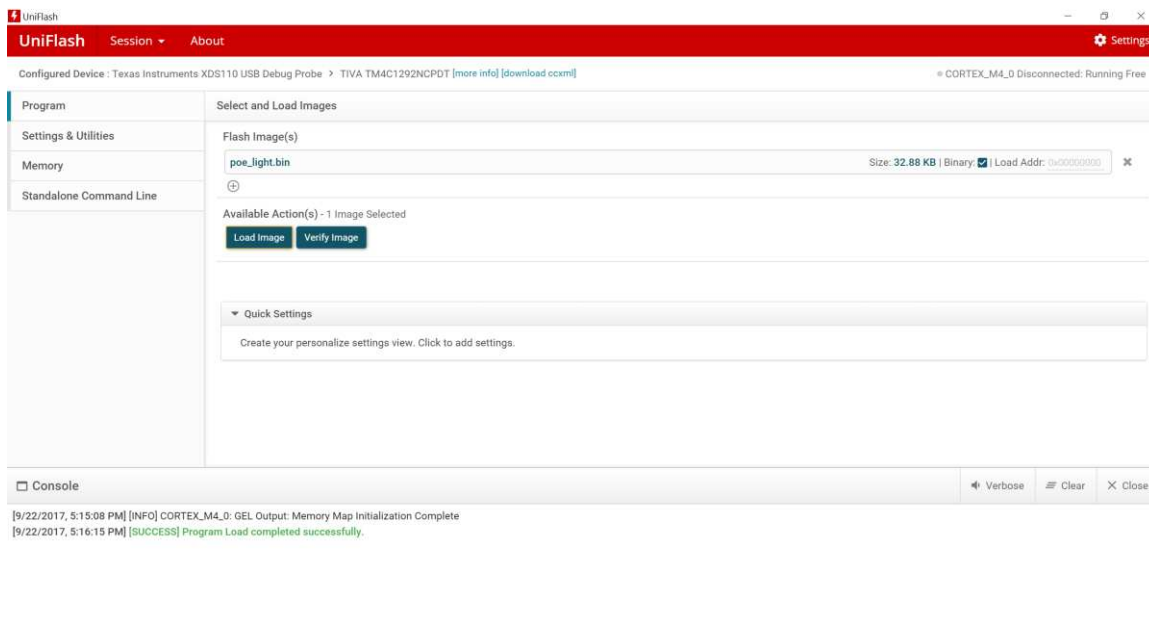

Figure 18. Flashing the PCB in UniFlash
2. To flash an image on to the TM4C1292NCPDT, navigate to the *Program* tab on the left sidebar. Browse for the *poe_light.bin* file (downloaded from TIDA-01463 tools folder), then click *Load Image* (see Figure 18).